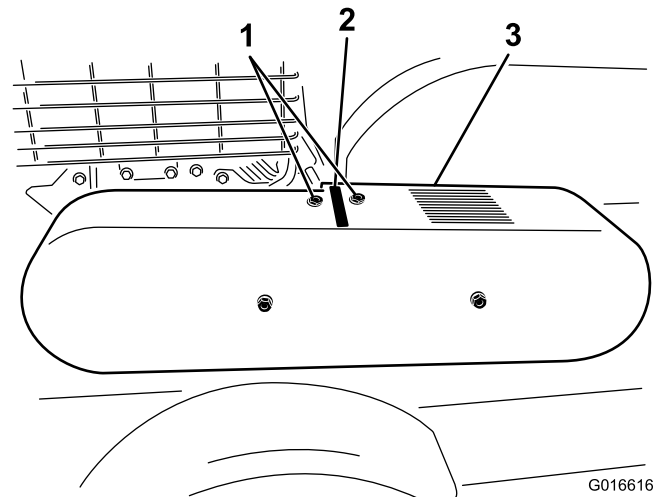

Figure 25
Note: Inspect the drive belt tension by inserting a metal scale through the slot on top of the belt cover (Figure 25) and pressing down on the scale with a force gage. The force should measure 6.5-7.5 kg (15 ± .75 lbs) at 1 cm (0.40 inch) belt deflection. Adjust as required.
2. Remove the belt guard (Figure 25).
- Remove the belt guard (Figure 25).